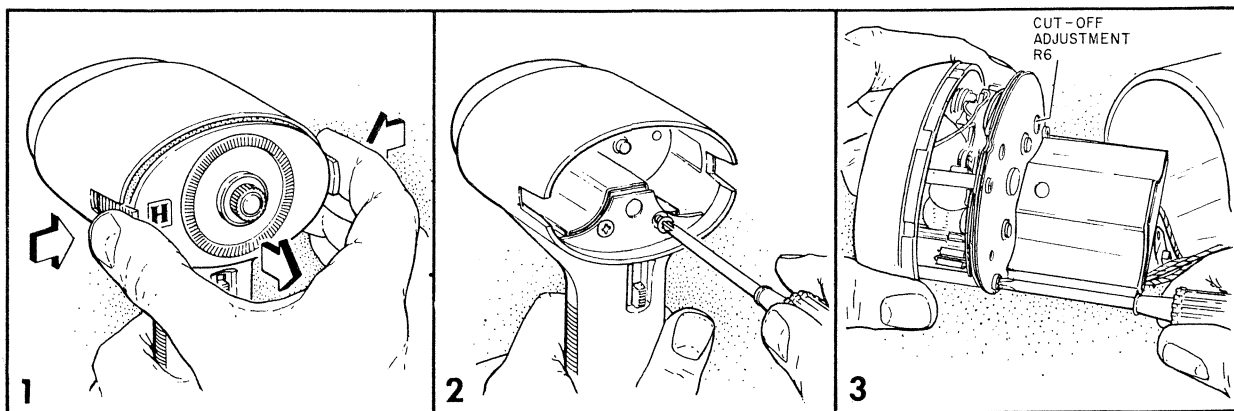
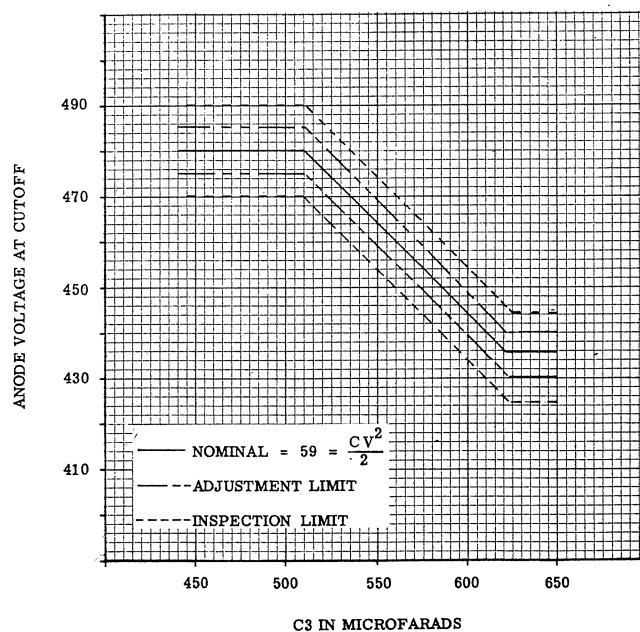

Figure 5-1. Disassembly Procedure
Figure 5-3. Cut-off Voltage VS Capacitance for 59 Watt-Seconds of Stored Energy
- A. Squeeze the two battery tray release buttons as shown in 1, Figure 5-1, and withdraw the battery tray.
- B. Remove the two screws (2, Figure 5-1) that hold the chassis assembly to the housing, and pull the chassis assembly out the front of the housing.
- C. To remove the nose ring assembly from the chassis assembly, remove the three screws (3, Figure 5-1) that hold the nose ring assembly to the chassis. Separate the nose ring from the chassis.
1. Remove the battery tray as shown in Figure 5-1.
7. Adjust cut-off potentiometer R6 (3, Figure 5-1) for the proper anode cut-off voltage. Anode (oscillator) cut-off voltage for a given value in  $\mu\text{f}$ , should be  $\pm 5$  volts of the voltage indicated in the chart (Figure 5-3). Value in microfards is marked on top of capacitor C3. Voltage limits are between 425 and 490 volts, and capacitance between 440 and 650  $\mu\text{f}$ .
Figure 5-1 through 5-4